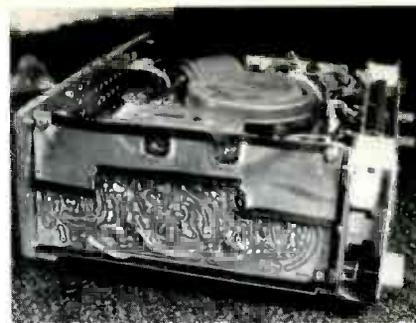

Fig. 5 One large circuit board holds all of the transistor stages. A second board contains the power-supply components and the relay.
**Fig. 5** Mike connectors are manufactured in many different variations. (A) This one comes with the screw-adjustable strain relief assembled ready to be slipped over the cable before the wires are soldered. Another kind (B) must be assembled as you go. (C) After the parts are installed on the cable, the wires are soldered to the connectors. Soldering is quicker and less-susceptible to wiring errors if you hold the connector block in a vise or vise-grip pliers.
Strip the wire ends 1/8 inch, and tin the ends. Disassemble the new connector (Figure 5). Slide the shell and coupling ring onto the cable. Clip the ring into the shell with the snap-ring. (If the cable was pre-trimmed, the conductors might be too long, and difficult to thread through the shell. Twist the conductors together before you poke them through the connector shell.)
One of the two circuit boards is shown in the side view of Figure 5.